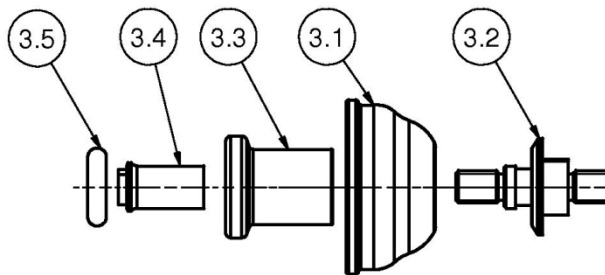

Figure 9 – Valve cone, individual parts
- Disassemble valve cone (3) using spanner size 10 and 6. Use the corresponding spanner surfaces at the clamping part (3.4) and the screw-in part (3.2). Remove diaphragm (3.1) and O-ring (3.5) (see figure 9).